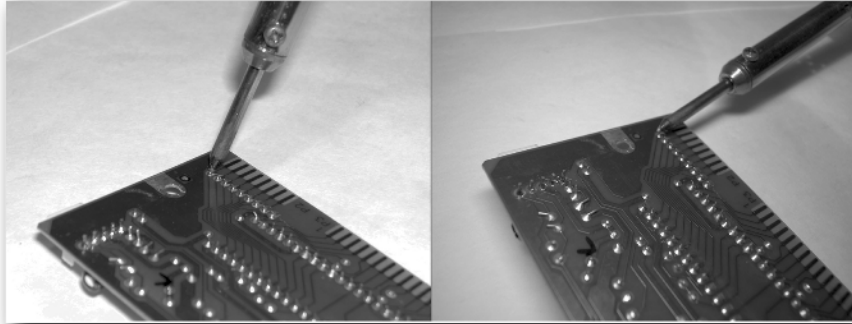

FIGURE 7-8: *Left:* Incorrect way to use the iron's tip. *Right:* The correct way.
5. Use the flat part of the iron's tip, and not the very point (see Figure 7-8). The more surface area of the iron you apply, the greater the heat transference.